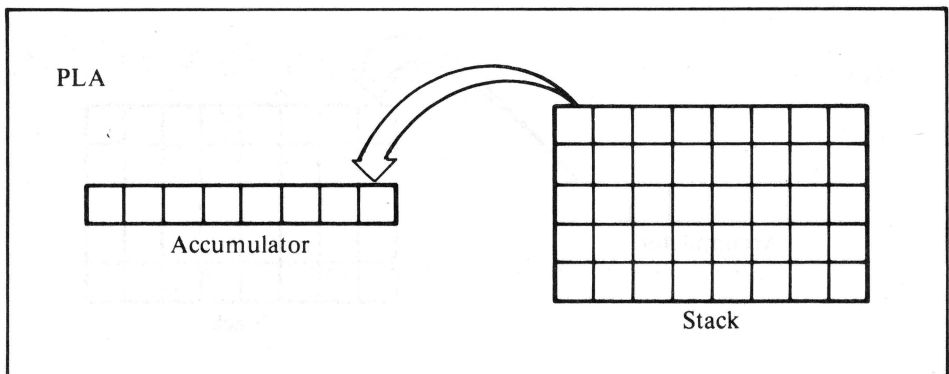

Figure 16-2. Pull accumulator off stack
- PLA — Pull accumulator off the stack. Takes one byte off the top of the stack and stores it in the accumulator (see Figure 16-2).